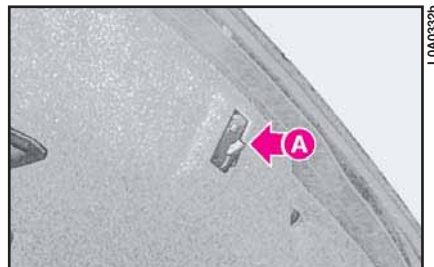

fig. 80
2) Depress manually the inside hook **A** (**fig. 80**) of the boot lock, and push it back completely until the recall electric travel is activated.